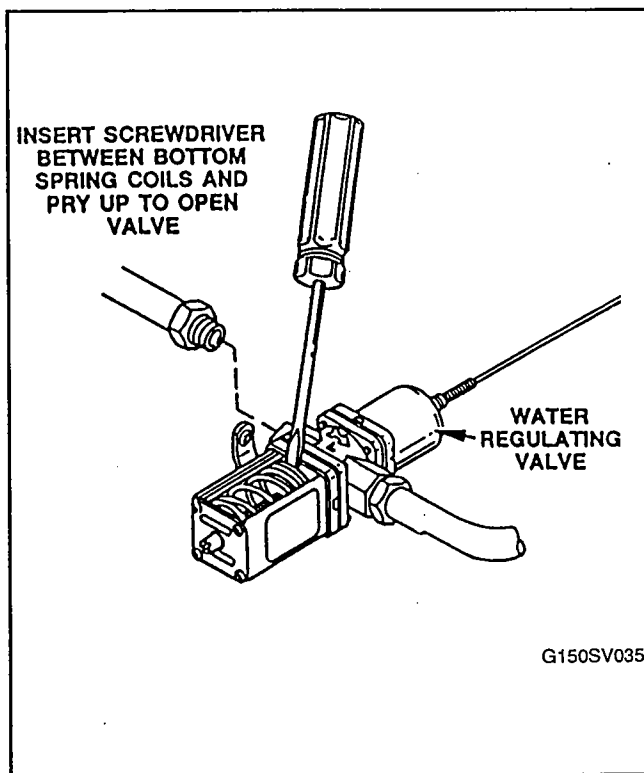

FIGURE 20. MANUALLY OPEN WATER REGULATING VALVE
4. Pry open the water regulating valve by inserting a large standard screwdriver between the bottom spring coils of the valve. Pry the spring upward to open the valve, Figure 20.